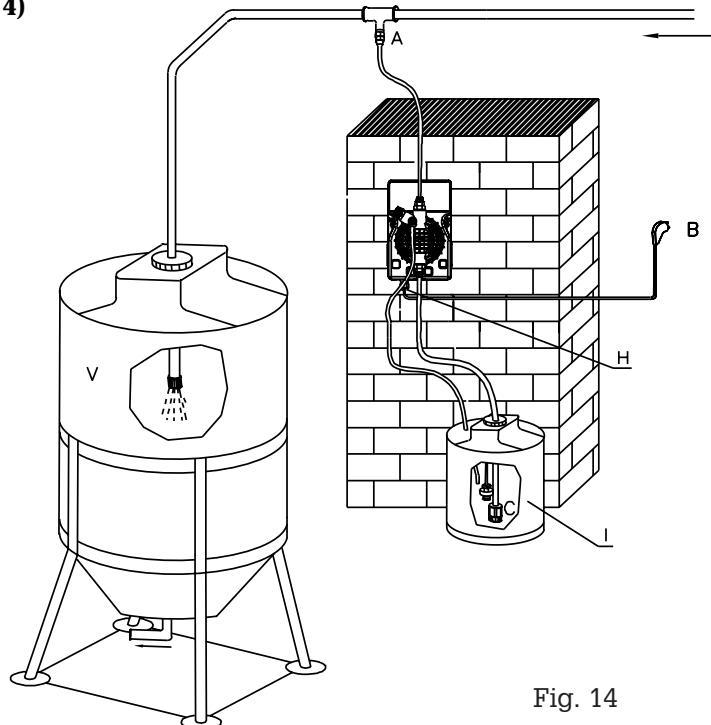

Fig. 14
7.2 - SCHEMA D'UNE INSTALLATION TYPE (Fig. 14)